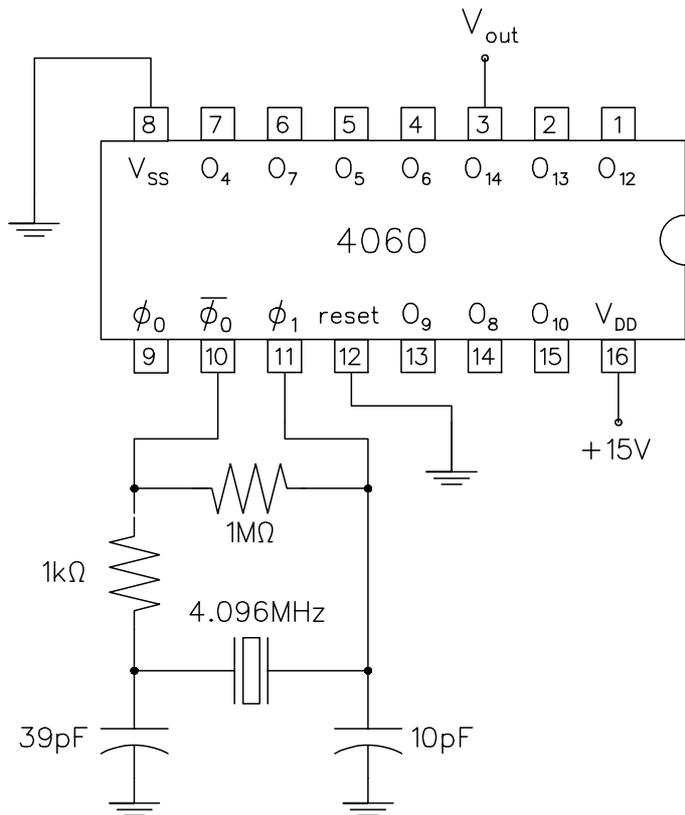

Figure 4.3: Crystal-based digital oscillator
- ⓘ Download a copy of the 4060 data sheet and review the internal schematic. Implement the circuit shown in Fig. 4.3. Check other outputs as well. Which output stage provides the 1-kHz signal?
- ⓘ Determine with the aid of a two-channel oscilloscope the propagation delay t_{pd} for one of the flip/flop stages of this ripple counter. Measure also the delay of several (N) stages. Does this delay represent an integer multiple N of the single stage delay t_{pd} ? Should it? How does your result for t_{pd} compare with that stated in the data sheet? Explain any noted discrepancy.